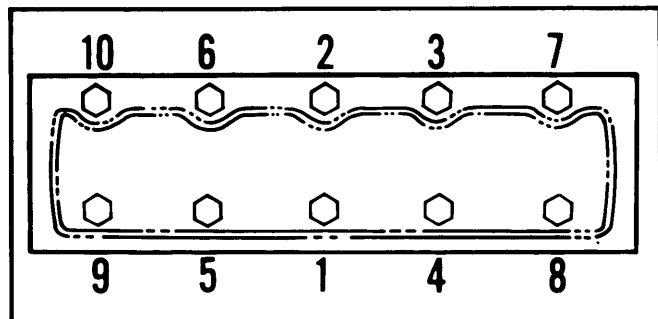

Fig. 3 Cylinder Head Tightening Sequence
2) Coat heads and threads of cylinder bolts with sealing compound and install into cylinder head finger tight. Gradually tighten bolts as shown in sequence in Fig. 3. Reverse removal procedure for remaining components.